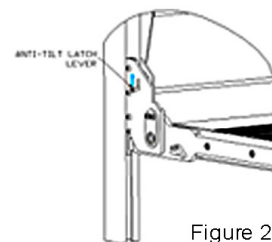

Figure 2
- Stand to the left hand side of the platform, lift the Anti-tilt Latch Lever (Figure 2) and lift the platform up to the vertical position where the platform retaining catch will automatically engage. (see Figure 3: Traveloc engaged)